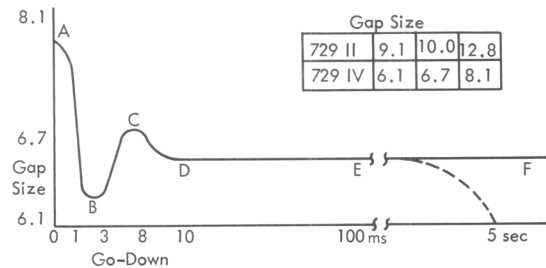

Figure 39. Graph of GO Down Time vs. Gap Size
**Explanation of Graph (Figure 39)**